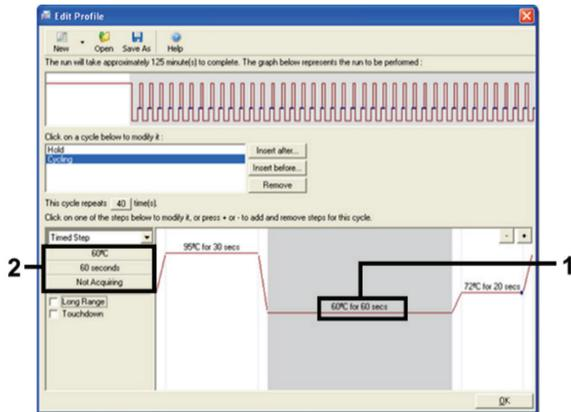

Figure 7. Cycling step at 60°C.
9. Highlight the second step and set to 60°C for 60 seconds. Click **Not Acquiring** to enable data acquisition during this step. (Figure 7).